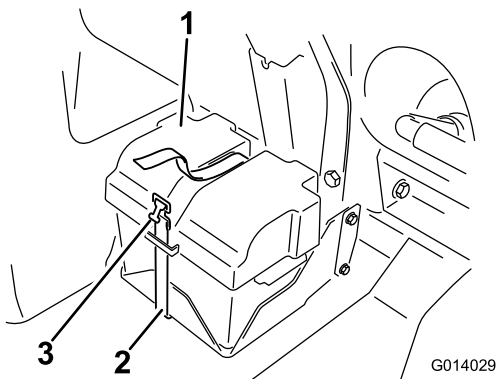
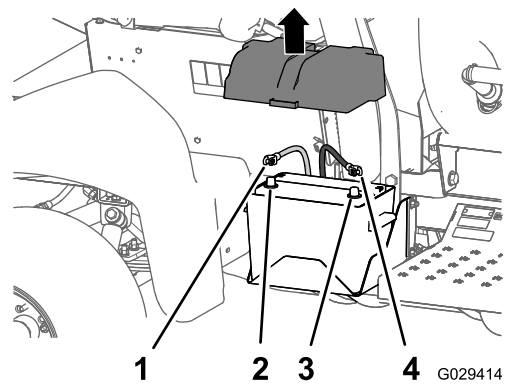

Figure 3
Figure 4
3. Remove the battery cover and disconnect the negative (black—ground) cable from the battery post (Figure 3 and Figure 4).
4. Disconnect the positive (red) cable from the battery post (Figure 4).